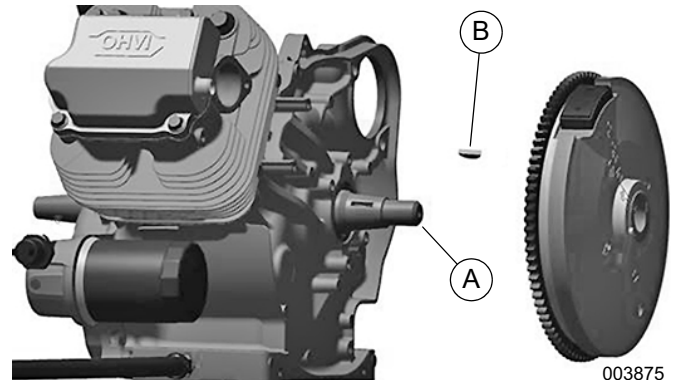

Figure 14-57. Install Woodruff Key (HSB)
1. See Figure 14-57. Attach fan (A) to flywheel (B) with fan plate (C) and two fasteners (D). Tighten fasteners to 18.4 ft-lbs (25 Nm).
1. See Figure 14-57. Verify crankshaft end (A) is clean and free of burrs and debris. Install woodruff key (B) in crankshaft slot.